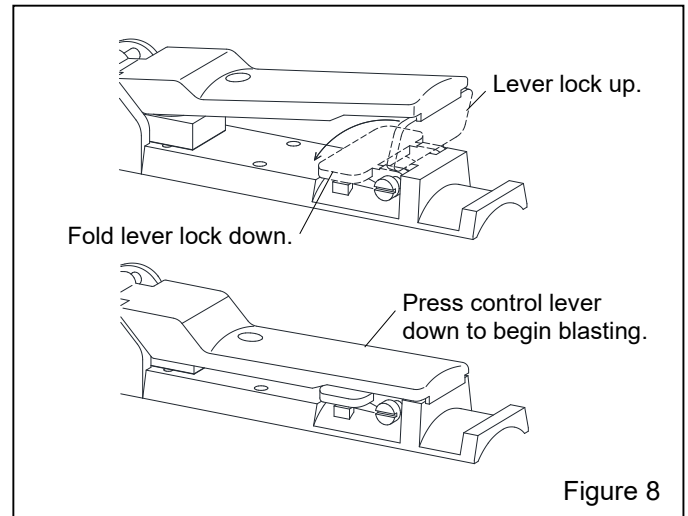

Figure 8
3.4.2 Fold down the safety lever lock and depress the remote control handle, as shown in Figure 8. Be prepared for blasting to begin within a few seconds.